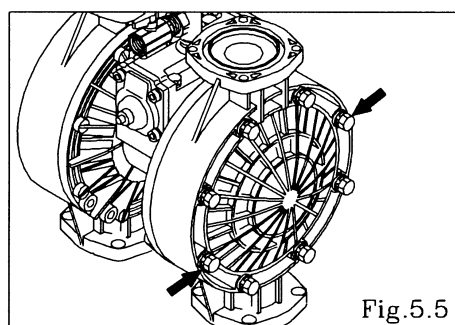

Fig.5.5
- Remove the 16 (24 on the NDP-80-HD) retainer bolts from the out chamber, and remove the out chamber. [Fig.5.5]